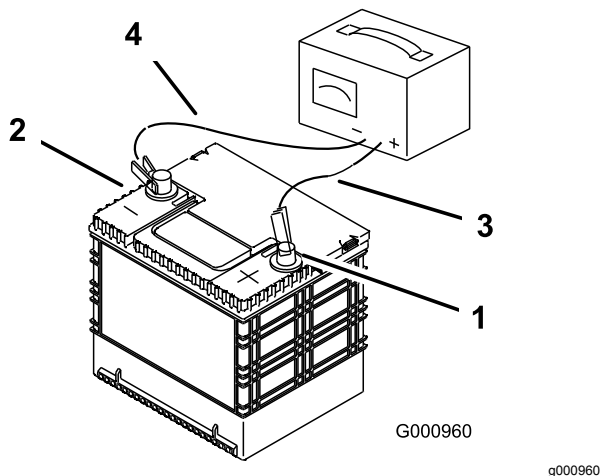

Figure 62
2. When the battery is fully charged, unplug the charger from the electrical outlet; then disconnect the charger leads from the battery posts (Figure 62).